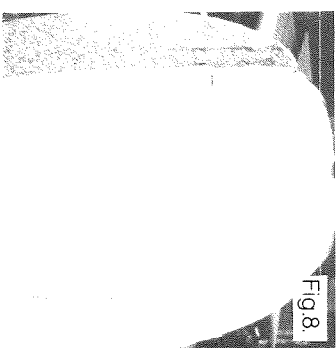
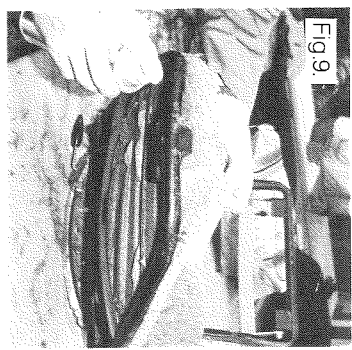

Fig. 8
Fig. 9
5. The naked squab consists of hard foam sides and softer foam as a centre section (Fig. 8). The foam is secured to the metal frame by glue, and the latter should be renewed wherever the foam has come away from the frame (Fig. 9). On my own example the top of the seat had suffered from collapse of the foam so that the shape was built up once more with some cloth wadding (Fig. 10).